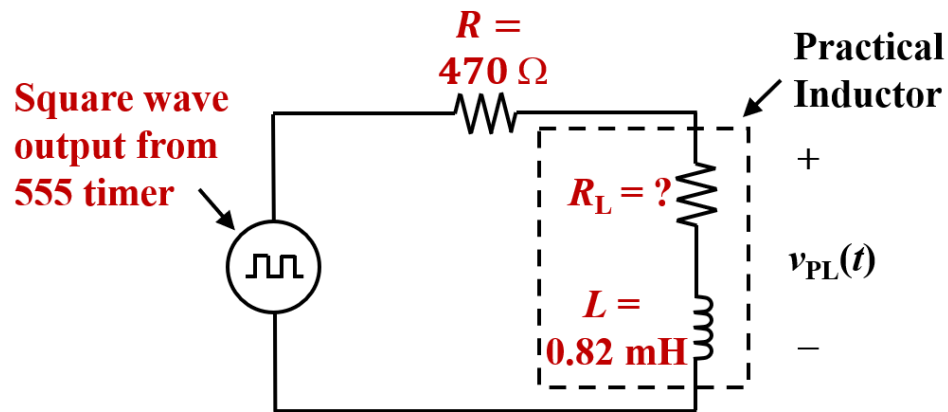

Figure 3: Experimental circuit used for verifying the transient behaviour of series RL circuit.
- You will now perform experiments to verify the above behaviour. Construct the circuit shown in Figure 3 below. You will be using a $470\ \Omega$ resistor in series with a $0.82\ \text{mH}$ practical inductor. Take some time now to measure the actual resistance of your $470\ \Omega$ resistor, as well as the resistance R_L of your inductor using the multimeter. Write down the values in your learning journal.